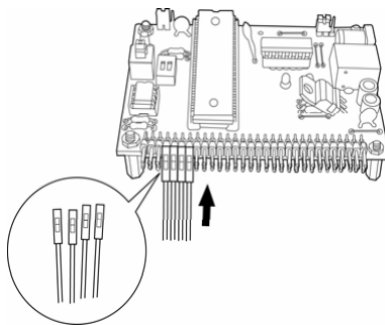

Fig. 2-2
2. Plug the loose ends into the connectors on the circuit board to be analyzed (Fig. 2-2).